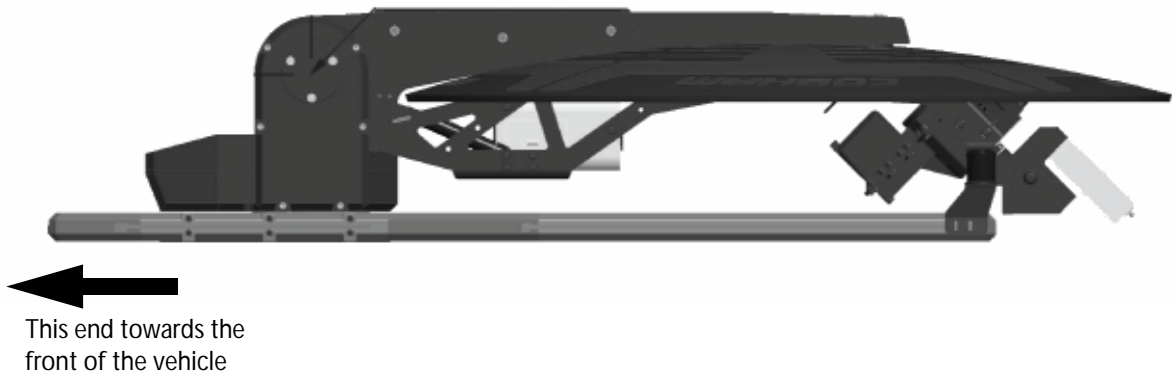

Figure 3-1: Position of the antenna (stowed) on the vehicle
**CAUTION!** Make sure that the Azimuth base faces towards the front of the vehicle as shown in Figure 3-1 below. Otherwise the wind pressure may cause damage to the antenna when the vehicle is moving!